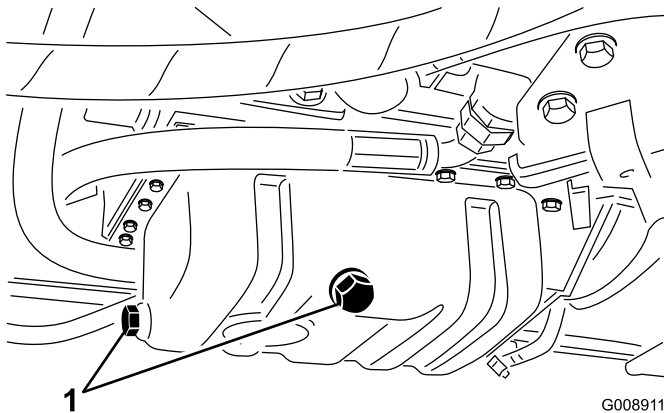

Figure 49
1. Remove the drain plug (Figure 49) and let the oil flow into a drain pan.